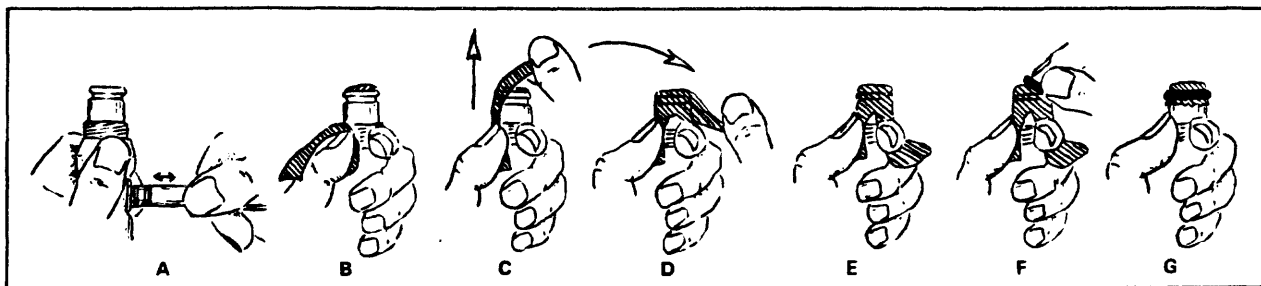

Figure 6
- A. Grasp the probe in your left hand. (See Figure 6.) When preparing the YSI 5739 probe the pressure compensating vent should be to the right. Successively fill the sensor body with electrolyte while pumping the diaphragm with the eraser end of a pencil or similar soft, blunt tool. Continue filling and pumping until no more air bubbles appear. (With practice you can hold the probe and pump with one hand while filling with the other.) When preparing the YSI 5720 and 5750 probes, simply fill the sensor body until no more air bubbles appear.